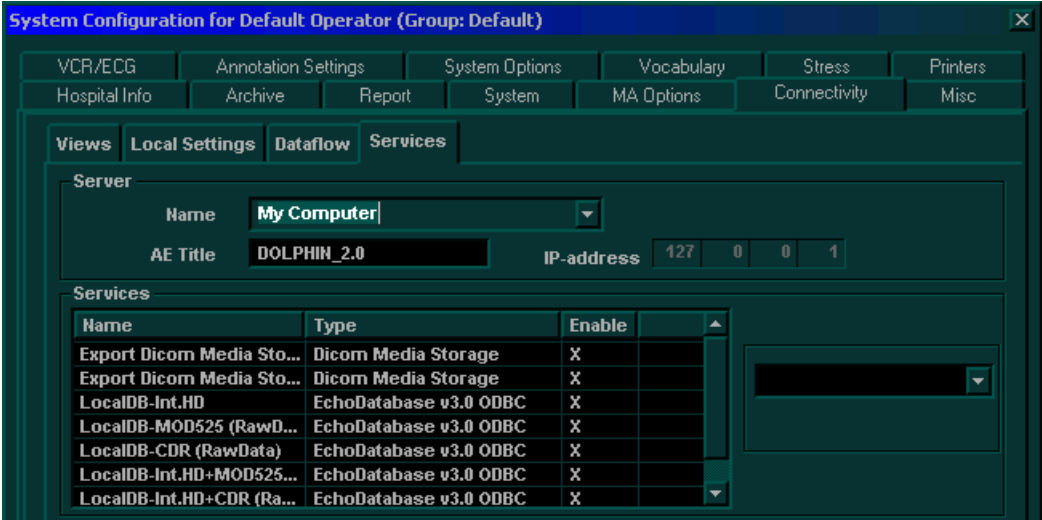

Figure 3-39 Services Tab
- 6) Trackball to the **Services** tab and press **Select**. The **Services** tab is displayed, as shown in Figure 3-39 "Services Tab" on page 3-56.